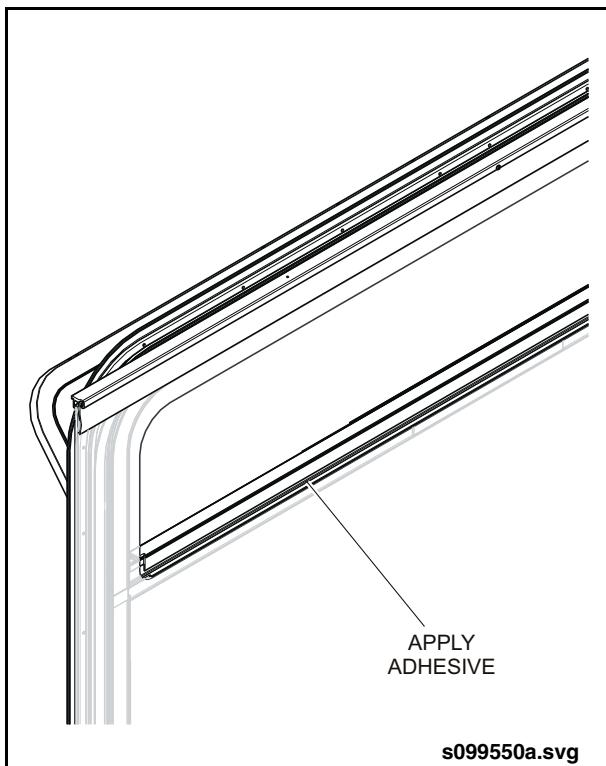

Fig. 14-22: Transom & Glass Joint
2. Wipe down the joint between the transom and glass with isopropyl alcohol. See "Fig. 14-22: Transom & Glass Joint" on page 28.
6. Remove masking tape to reveal sealed joint. See "Fig. 14-22: Transom & Glass Joint" on page 28.